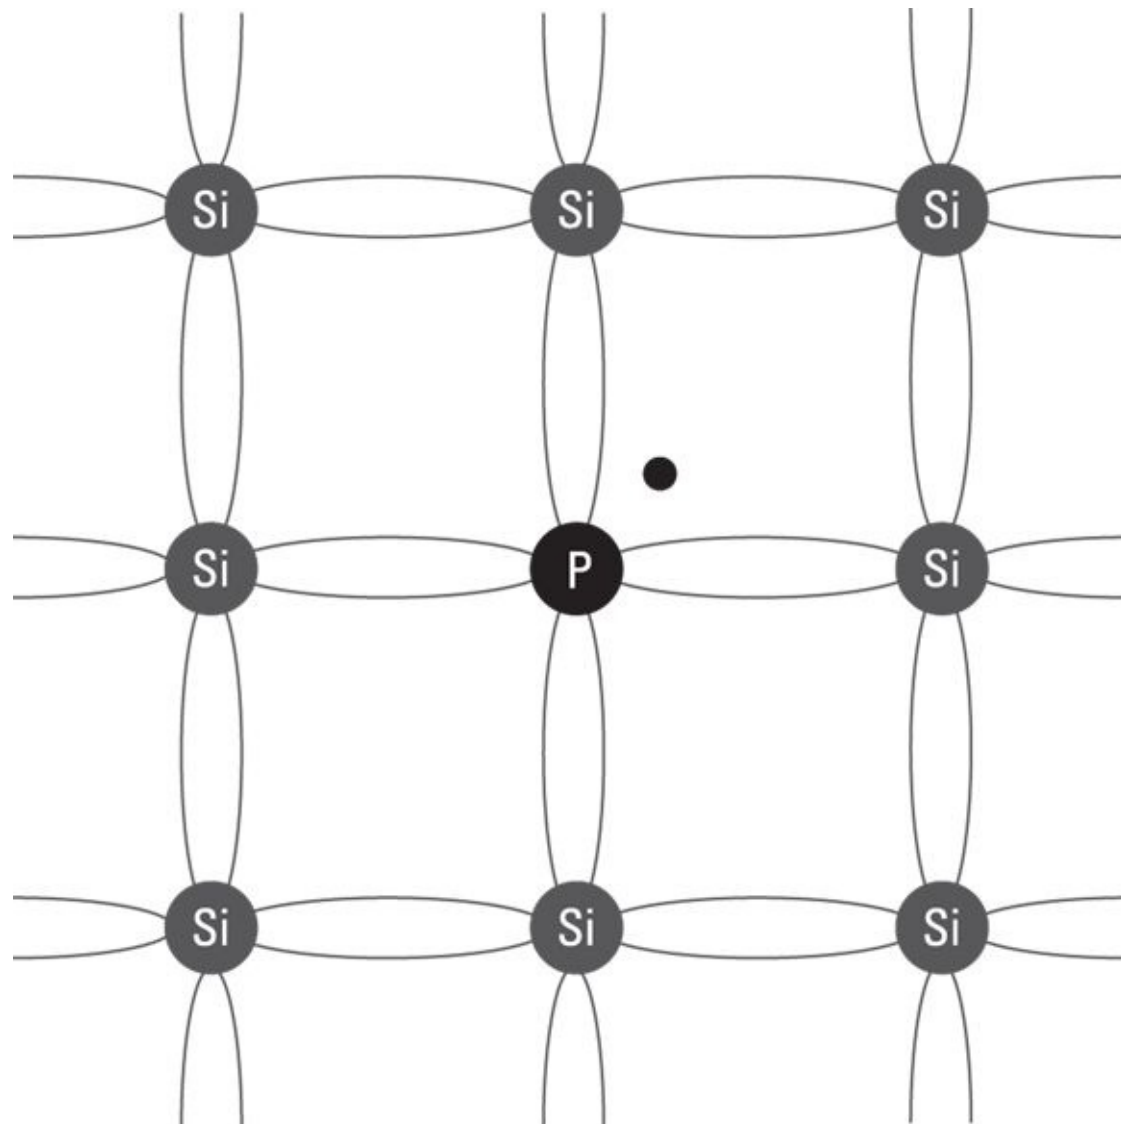

FIGURE 5-3: An N-type semiconductor has extra electrons.
- **N-type semiconductor:** Created when the dopant is an element that has five electrons in its valence layer. Phosphorus is commonly used for this purpose. The phosphorus atoms join right in the crystal structure of the silicon, each one bonding with four adjacent silicon atoms just like a silicon atom would. Because the phosphorus atom has five electrons in its valence shell, but only four of them are bonded to adjacent atoms, the fifth valence electron is left hanging out with nothing to bond to. The extra valence electrons in the phosphorous atoms start to behave like the single valence electrons in a regular conductor such as copper. They are free to move about, as shown in Figure 5-3